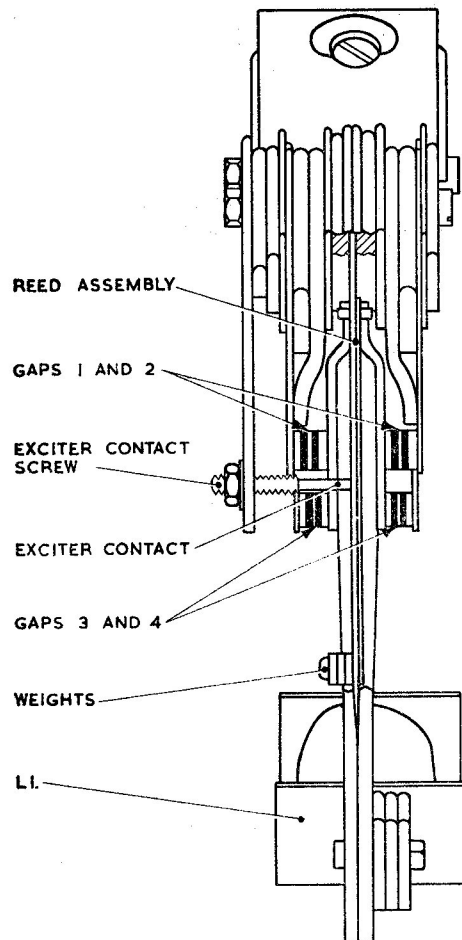

Fig. 4. Vibrator component
6. L1, which supplies the mechanical energy to operate the reeds, is actuated by a separate small pair of contacts Z1 and Z2, Z1 being mounted on an adjustable screw for servicing purposes. These contacts, which are normally closed, are opened as the reeds swing away from the stationary contact screw, and it is this interruption of current which sets the reed assembly vibrating. The frequency of vibration is determined by weights attached to the free end of the reeds (fig. 4).